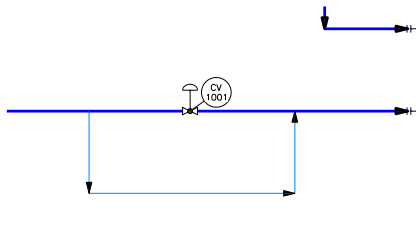

Figure 2-55 Location of the control valve
4. Insert the control valve on the feed line, as shown in Figure 2-55.